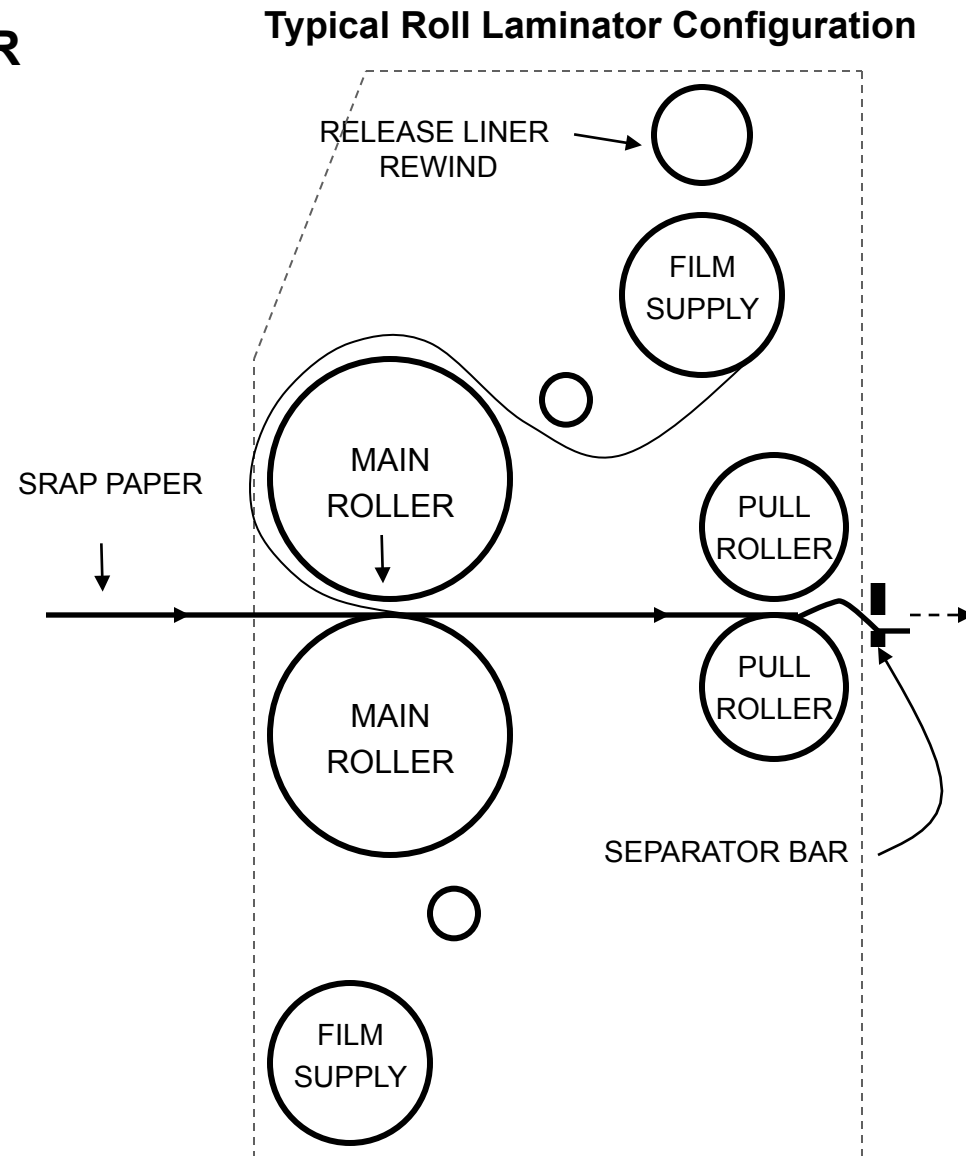

Figure 9 – Threading The Laminator With AccuShield
2. With all rollers gapped, thread the AccuShield on the top as in Figure 9 and push the AccuShield into the nip area between The two Main Rollers.